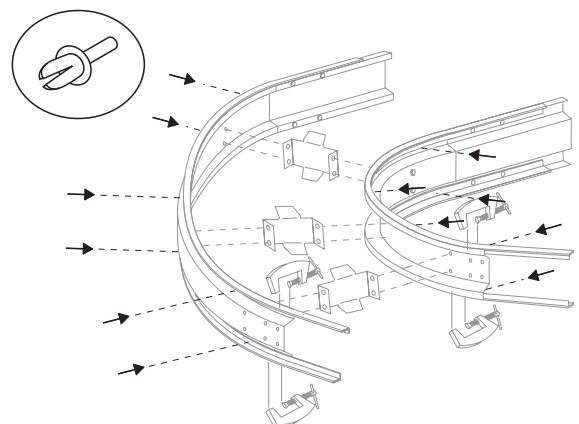

Figure 10
The ends of adjoining wearstrip sections should be trimmed at 60° angles, as shown in *Figure 10*. This angle, in conjunction with the direction in which the angles are cut (discussed below), allows the chain to travel smoothly over the wearstrip joint.
6. A single wearstrip rivet must be installed in every hole throughout the bend. Drill the necessary holes ($13/64$ " [5.5mm] drill bit) in the wearstrip, and install the wearstrip rivets. Refer to *Figure 10*. Remove the clamping devices after all rivets have been installed.